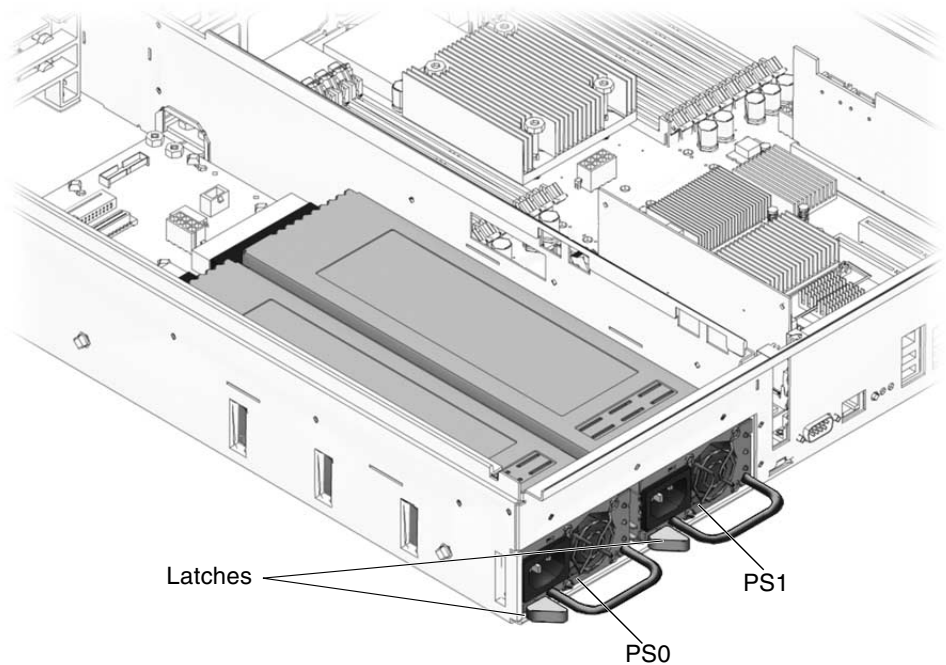

FIGURE 4-2 Locating Power Supplies and Release Latch
1. Identify which power supply (0 or 1) requires replacement (FIGURE 4-2).